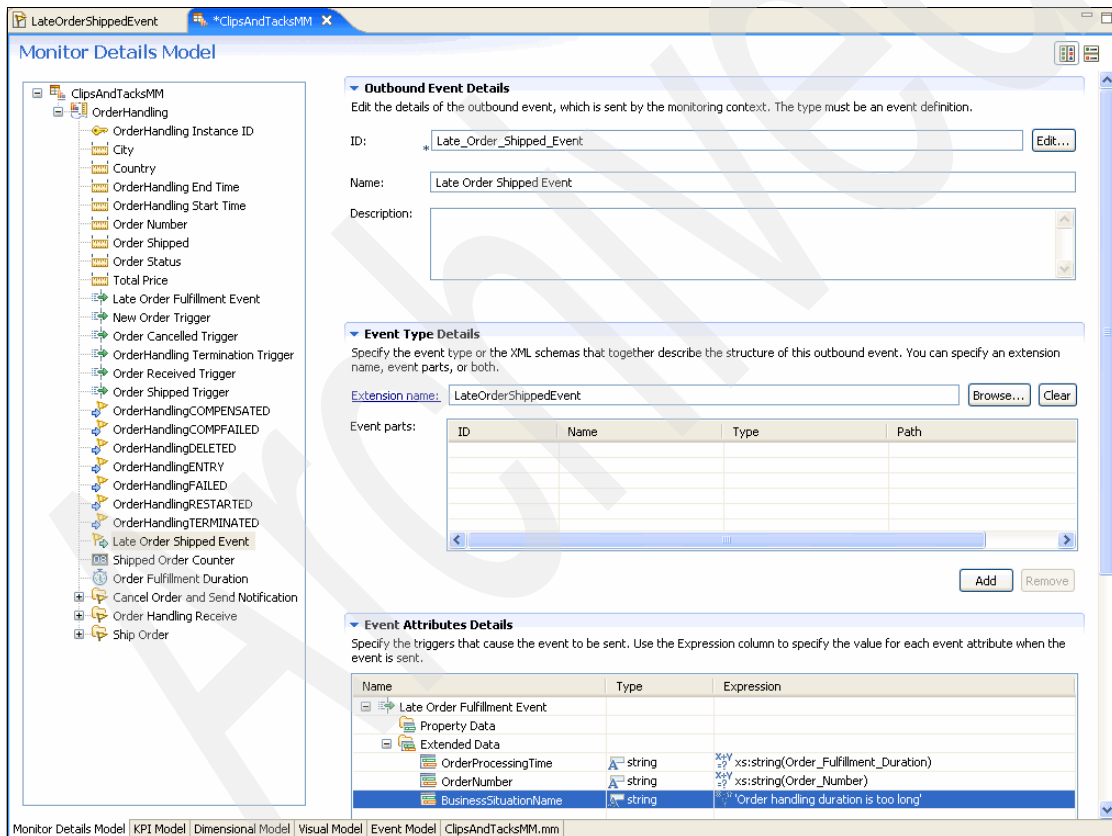

Figure 5-57 Late Order Shipped Event Outbound Event overview
4. In the Monitor Details Model panel (Figure 5-57):